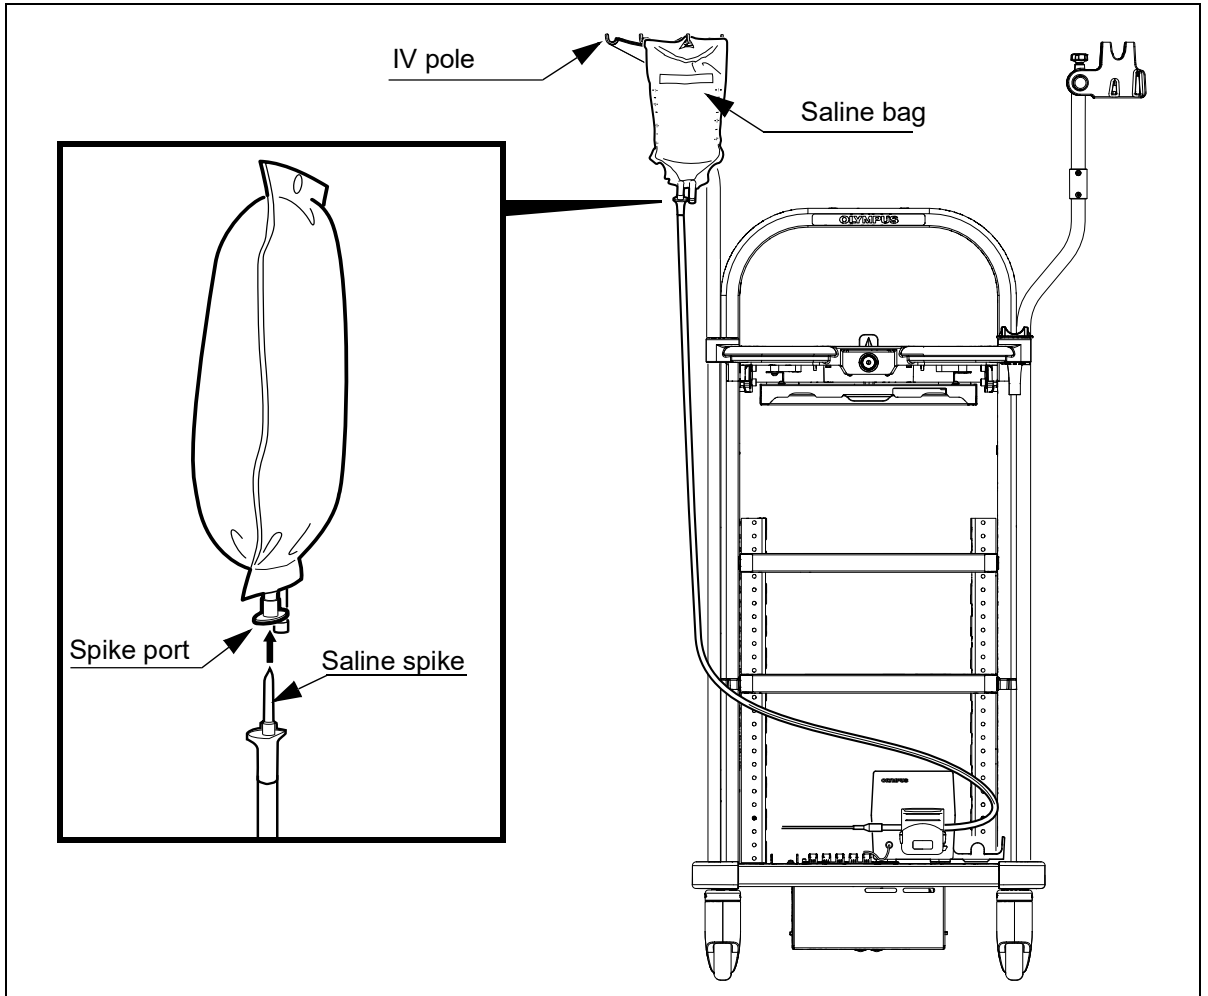

Figure 3.5
12. For saline fluid bag use, refer to Figure 3.5. Remove the cap from the spike of the MAJ-1682 Accessory Port Tube and fully insert the spike with a twist into the correct port of the saline bag. Hang the saline bag on an IV pole.